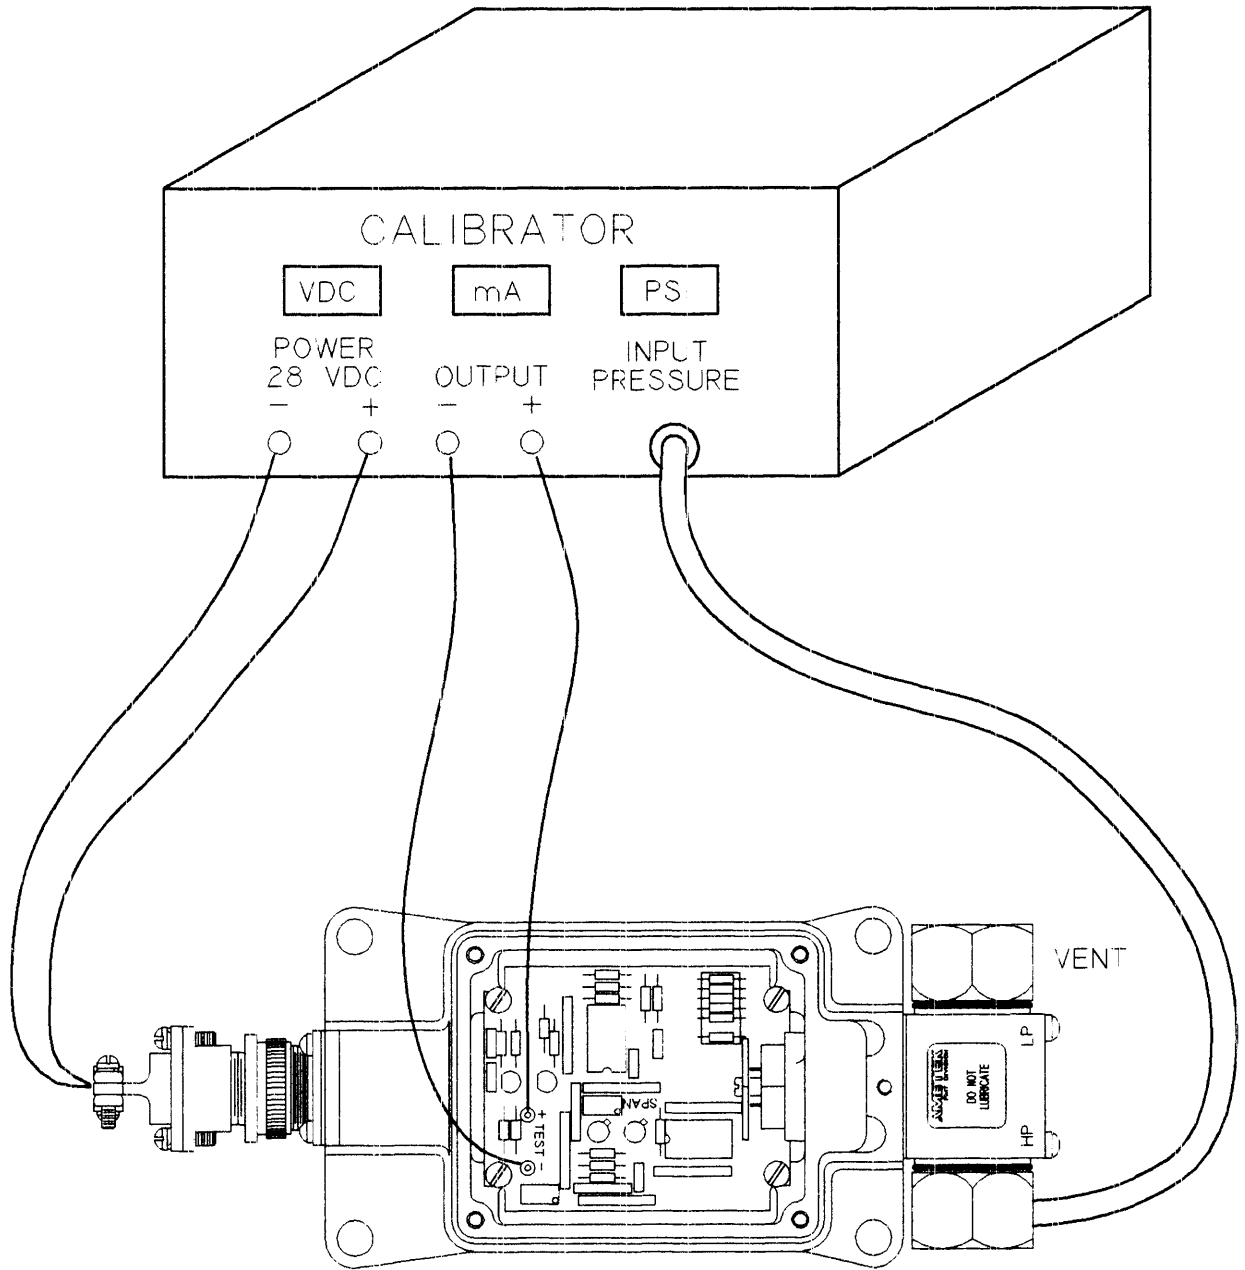

FIGURE 6-1. CALIBRATION TEST SET-JP
- f) If the range is exceeded within the overpressure range of MIL-P-24304B (SH), verify the zero calibration in accordance with step d. before proceeding. If the range is exceeded beyond the overpressure specification, unit may not be serviceable. Verify calibration before returning to service .
- g) Refer to the pressure transducer's nameplate to determine the pressure range. Attach the calibration system and pressure source to the pressure connection in accordance to the calibration system technical manual. Adjust the pressure source to 100% of the pressure transducer's range (Figure 6-1).